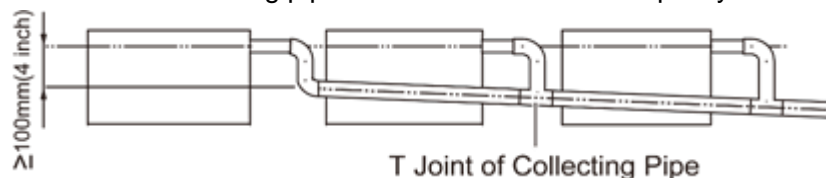

Fig 4.3.4
- (4) When connecting several drain pipes, follow the instruction as indicated in Fig 4.3.4. Choose the drain collecting pipe that matches with unit capacity.